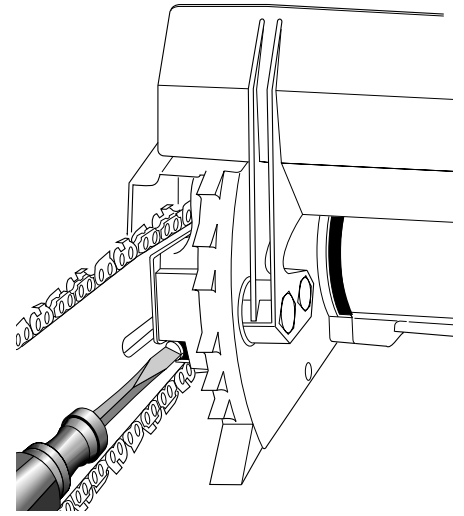
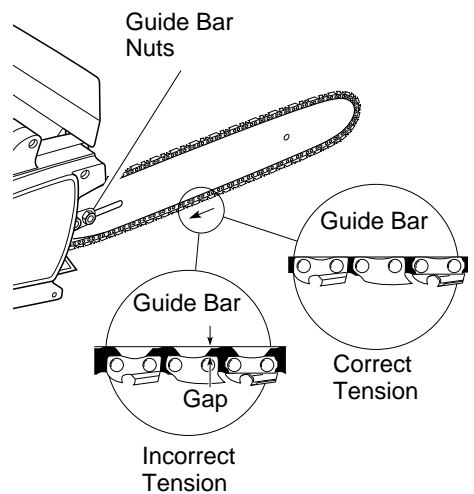

Figure 6 - Turning Adjusting Screw
Figure 7 - Saw Chain Adjustment
2. Turn adjusting screw clockwise until all slack is out of chain (see Figure 6). *Note:* There should be no gap between side links of chain and bottom of guide bar (see Figure 7).